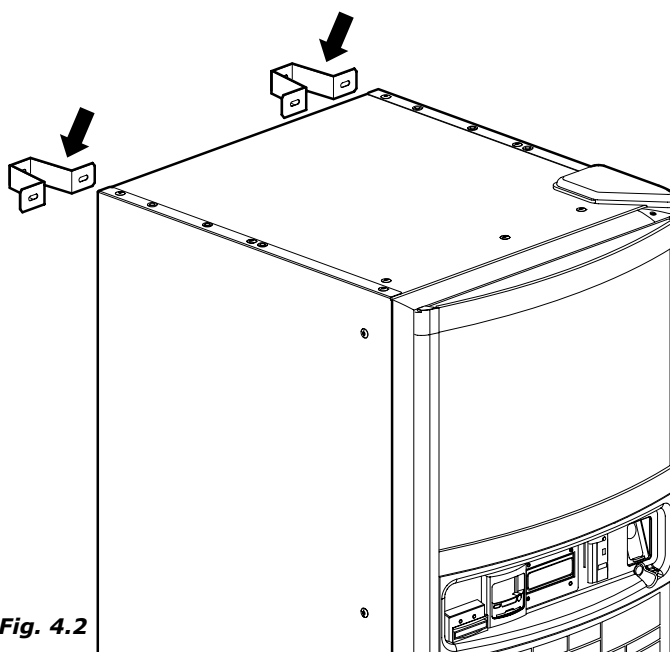

Fig. 4.2
- For safety reasons we recommend use of the lock-on brackets (Fig. 4.2)